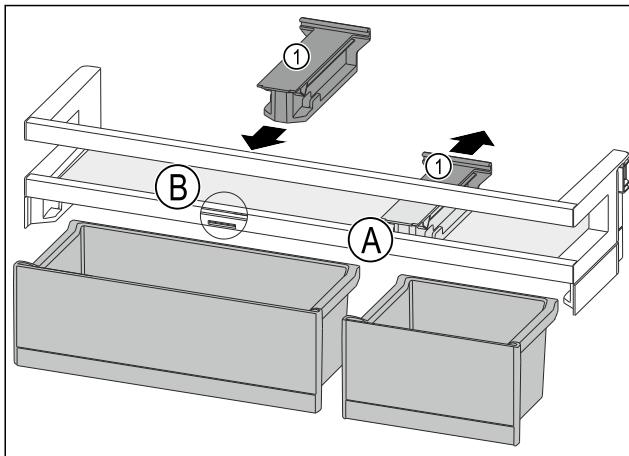

Fig. 118
- ▶ Take off the holding part Fig. 118 (1) in position Fig. 118 (A) backwards.
- ▶ Insert the holding part Fig. 118 (1) in position Fig. 118 (B).